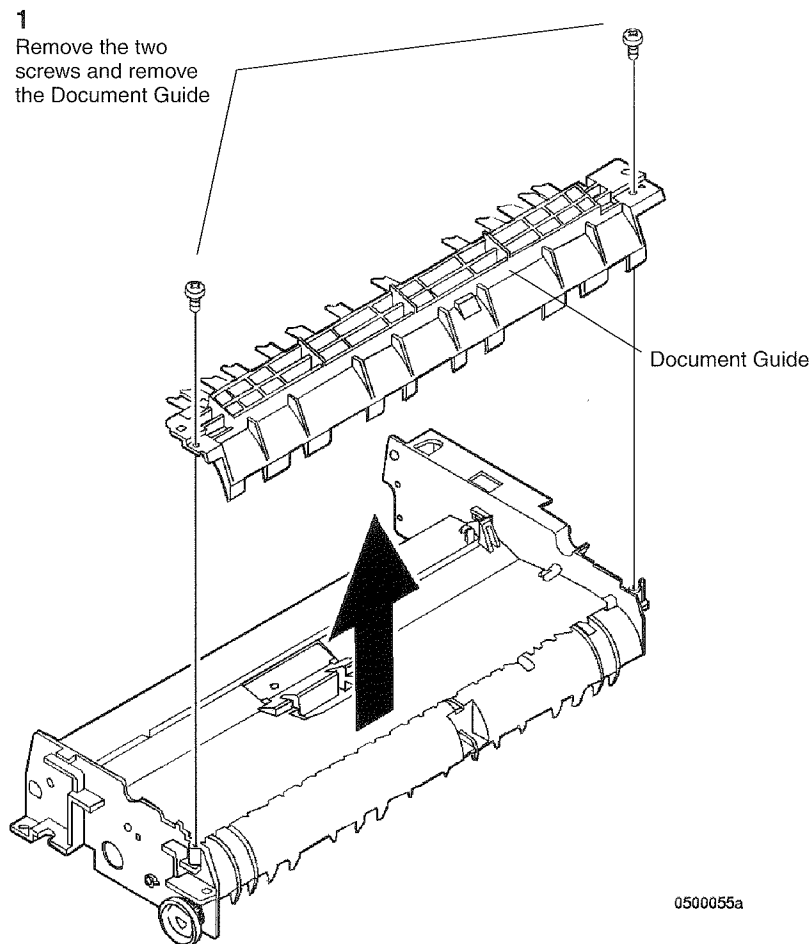

Figure 1 Removing the Document Guide
3. ( Figure 1): Remove the Document Guide.